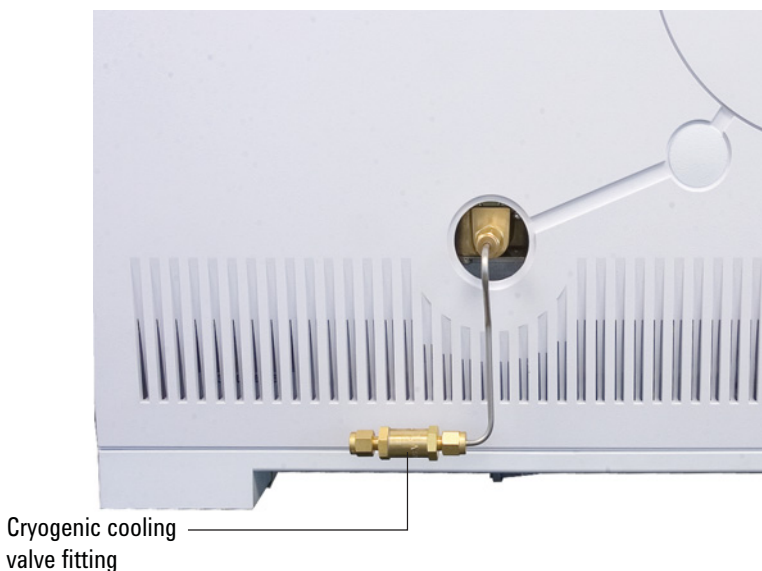

Figure 13 Location of cryogenic cooling valve
- 1 Locate the inlet for liquid CO₂ on the left side of the GC. Prepare enough tubing to reach from the supply tank to this fitting. See Figure 13.